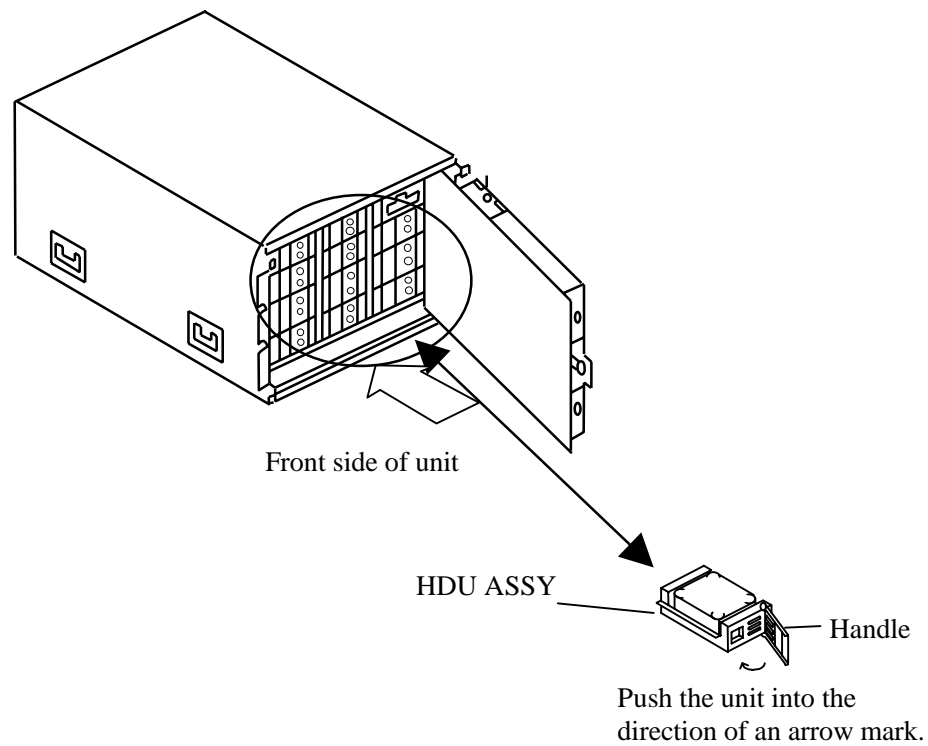

Figure 4.7.9 HDU ASSY Check
- (3) When all the units have been installed in the 19" rack frame, make sure the HDU ASSY handle of each unit is not slack. Then, push every HDU ASSY into the inside lightly. (See Figure 4.7.9)